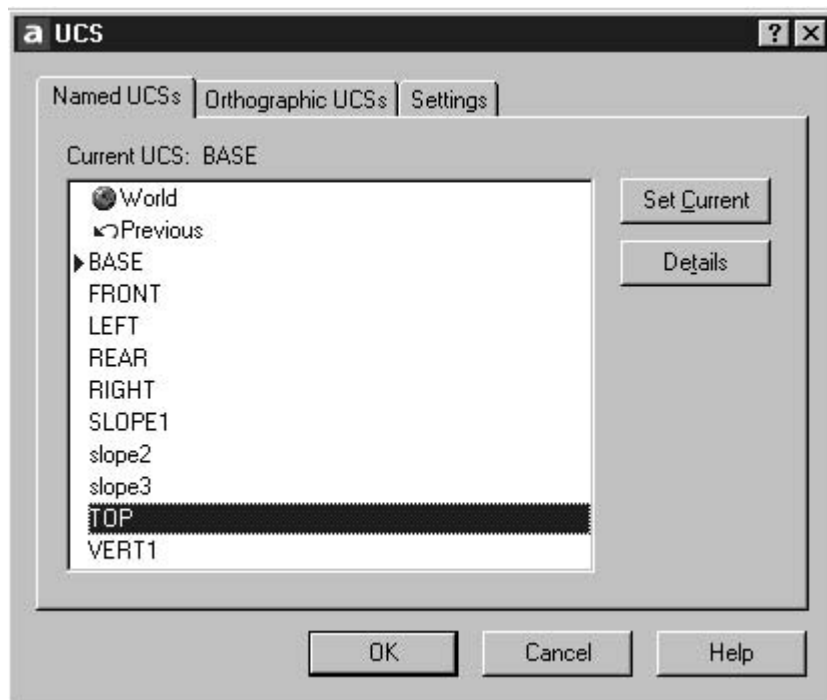

Figure 5.3 The UCS dialogue box – Named UCS tab.
2. pick Set Current – Fig. 5.3